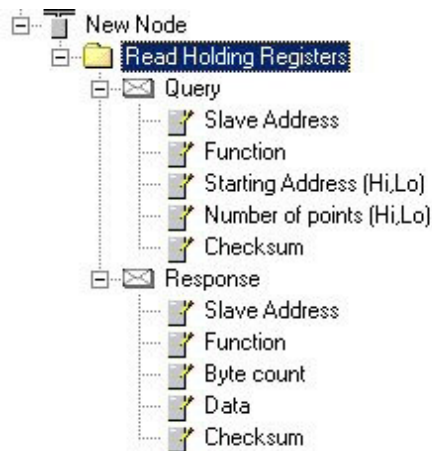

Figure 4
9. To read the Output Frequency from the drive, select 0x03 for Read Holding Registers. You should have two icons labeled Query and Response under the folder icon Read Holding Register as shown in Figure 4.